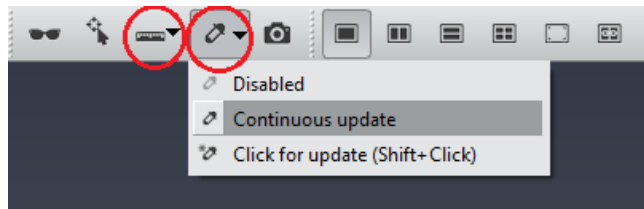

Figure 23.6: Quick Probe or Measure tool can be used to Estimate the Maximum Displacement
- Estimate the maximum displacement in this region. To do so, ensure that the Quick Probe from the Viewer Toolbar is set to *Continuous Update* (Figure 23.6) then place the mouse on the 3D viewer and read the coordinates displayed in the progress bar. Be sure to be on Interact mode (if not, press **ESC**).